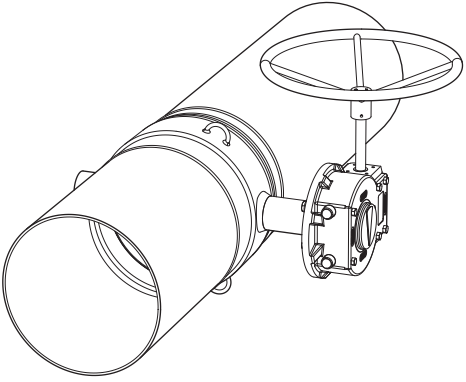
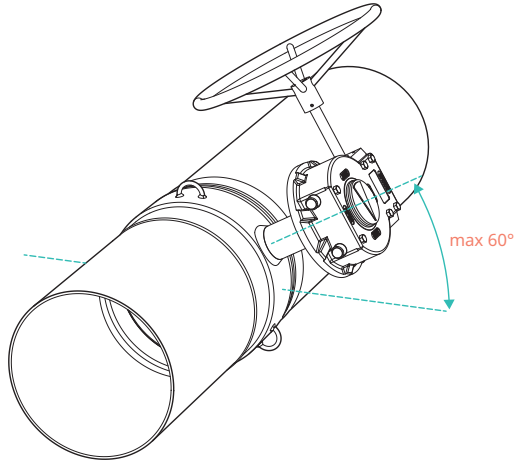

Figure 13. Installation in a horizontal position
Figure 14. Installation at an angle
The most recommendable installation position is in a horizontal pipeline with the valve stem horizontal (see Figure 13). The valve can alternately be installed at an angle of max $+60^\circ$ (see Figure 14).
- The recommended installation position for the valve is at an angle (see Figure 13.) or with the shafts in the horizontal position (see Figures 13 and 23). Avoid installation with the shafts fully upright.